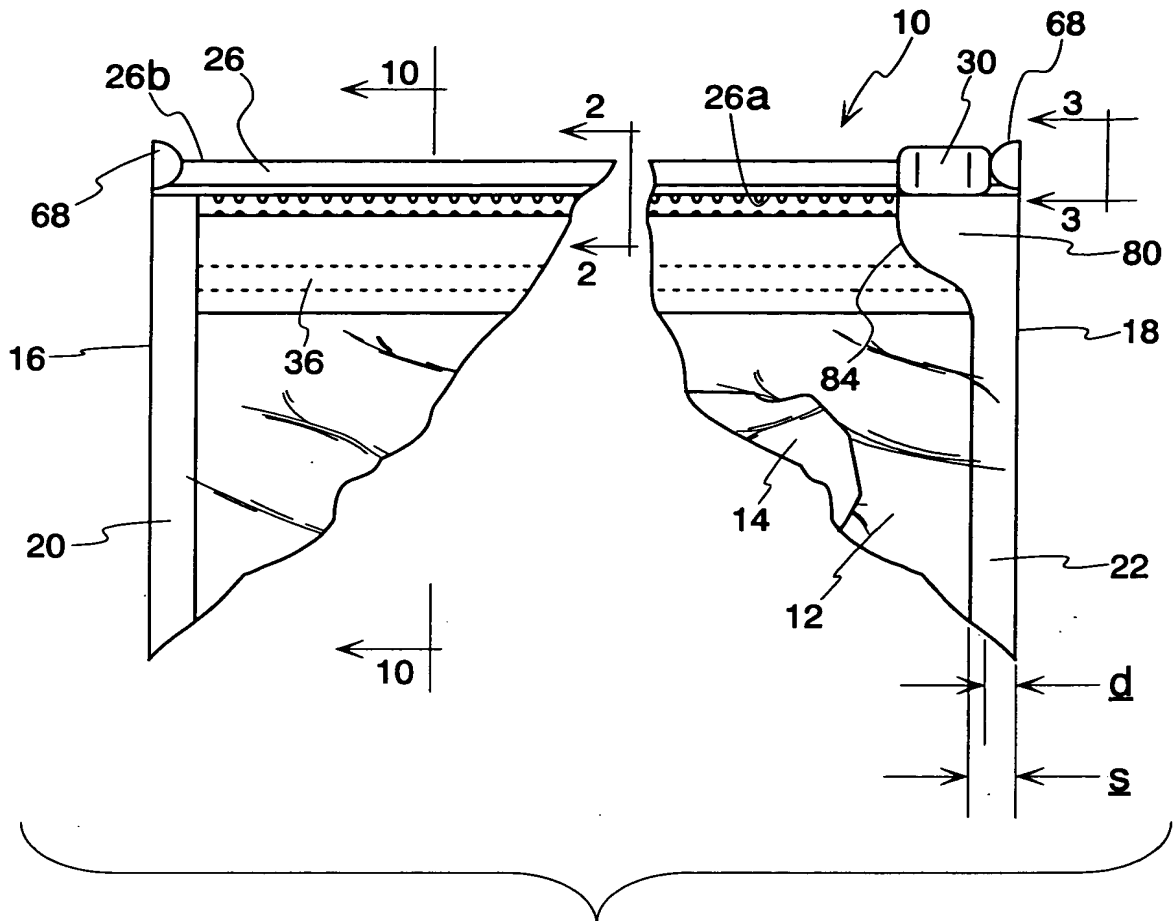

Fig. 1
FIG. 1 is a cross-sectional view of a first embodiment of a device. The device includes a central vertical shaft (12) and a top cap (72). A horizontal plate (28) is positioned below the shaft. A vertical line (14) is shown to the right of the shaft. Dimensions W and Z are indicated. Labels 26a, 26b, and 28a point to specific parts of the flange and plate.